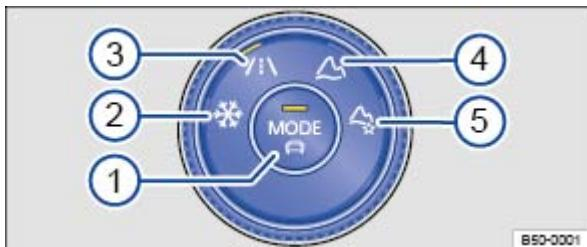

Fig. 117 In the lower center console: 4MOTION Active Control.
Key to ⇒ Fig. 117:
- Turn the knob until the desired driving mode lights up ⇒ Fig. 117. The selected driving mode appears in the Infotainment system.
- **OR:** Press the Driving Mode Selection button ⇒ Fig. 117 ① or tap the function key for the selected driving mode in the Infotainment system display.
- Turn the 4MOTION Active Control knob to the **Onroad** driving mode ⇒ Fig. 117③.
- Turn the knob until the **Custom Offroad** icon lights up ⇒ Fig. 117⑤.